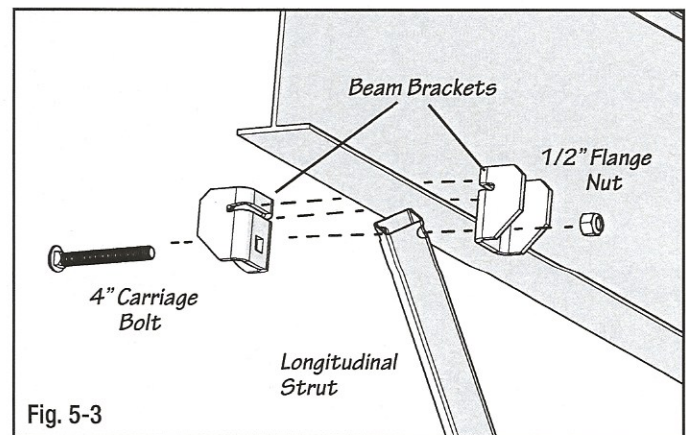

Fig. 5-3
- Raise the longitudinal strut upward and position it between the two beam brackets as shown right in Fig. 5-3.